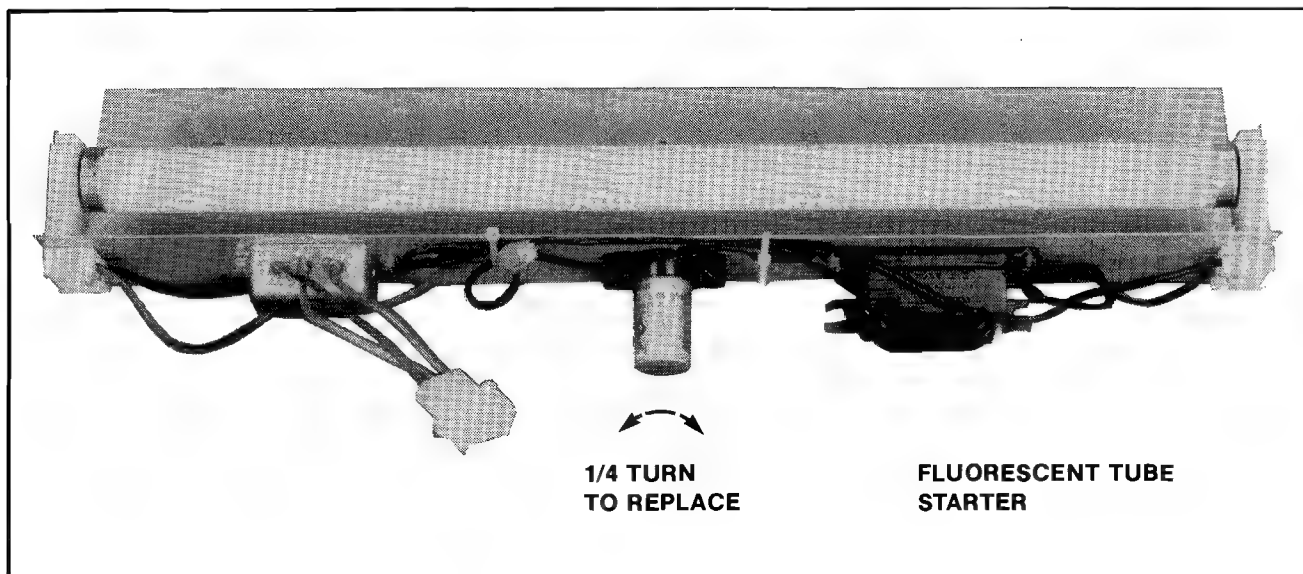

Figure 3-7 Replacing Fluorescent Tube Starter
**WARNING:** If you drop a fluorescent tube and it breaks, IT WILL IMplode! Shattered glass can fly six (6) feet or more from the implosion. Use care when replacing any fluorescent tube.
- ☐ Replacing the fluorescent light tube starter. See Figure 3-7.
- Replacing the black light tube starter. See Figure 3-7.
**WARNING: If you drop a fluorescent tube and it breaks, IT WILL IMplode! Shattered glass can fly six (6) feet or more from the implosion. Use care when replacing any fluorescent tube.**